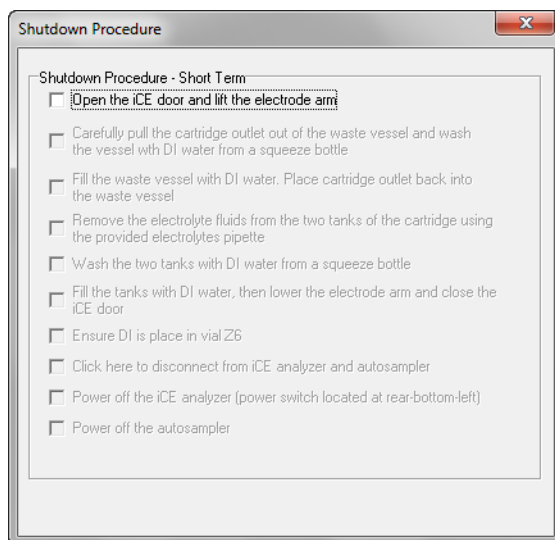

Figure 5-38: Short term shutdown protocol in iCE CFR Software.
1. In iCE CFR Software, select **Operate** from the main menu, then click **Shutdown** and **Less than 7 days**. The short term protocol checklist will display (Figure 5-38):